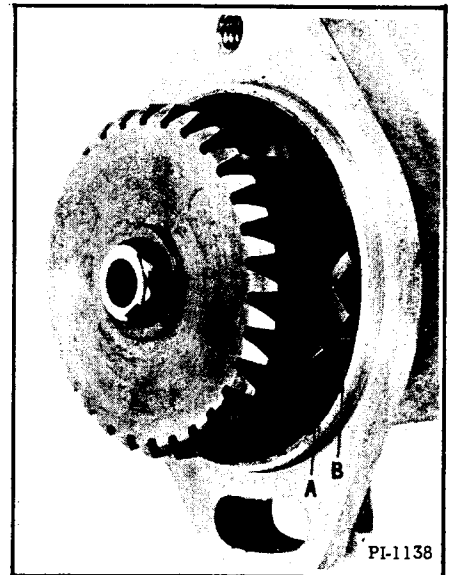

Fig. 129 Impulse Lever and Stop
- (1) Remove the No. 1 spark plug. The No. 1 cylinder is on the left side when facing the timing sight hole.
- (2) Turn the engine over by hand until compression is on the No. 1 cylinder and the "M" mark is centered in the timing sight hole.
- (3) Turn the magneto gear counterclockwise until the small white mark appears in the sight window of the magneto cover. The gear will now be in a tightened position. You will feel a resistance at this point. The impulse lever and stop will be in the position shown in figure 129.
- (4) Install the magneto with the gear in this position and hold it as straight as possible. Watch the gear when installing to be sure it does not move from its position.
- (5) Turn the top of the magneto toward the front of the machine all the way into the slotted holes. Turn the engine flywheel counterclockwise one half turn and then clockwise until the mark for 5° ahead of DC is in the sight hole. Now slowly turn the magneto to a vertical position until a loud click is heard.
- (6) Final setting can be made with a timing light. Move the magneto until the "SP" mark is centered in the sight hole.